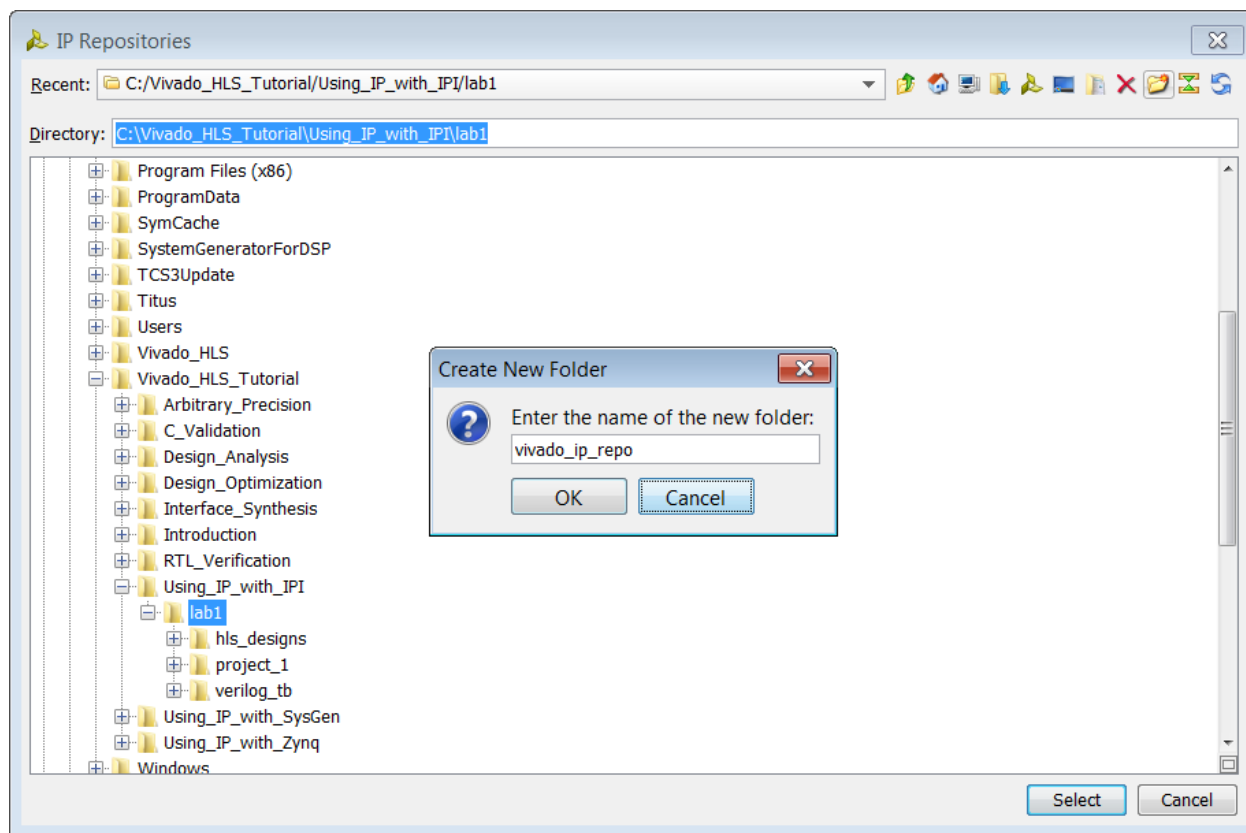

Figure 191: Create a New IP Repository
- c. Enter "vivado_ip_repo" in the resulting dialog (**Figure 191**).